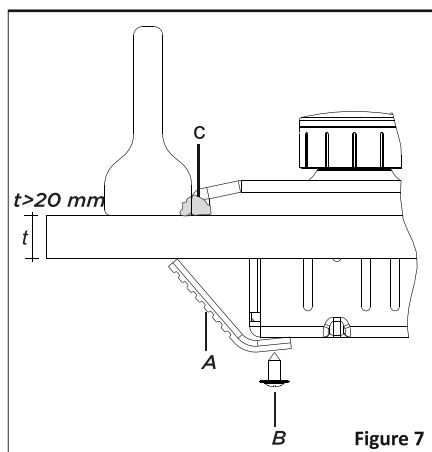

Figure 7
- Insert the appliance into the aperture and fix in position via the brackets (A) and screws (B). Adjust the position of the brackets depending on the thickness of the worktop as indicated in Figure7 and tighten the screws evenly.